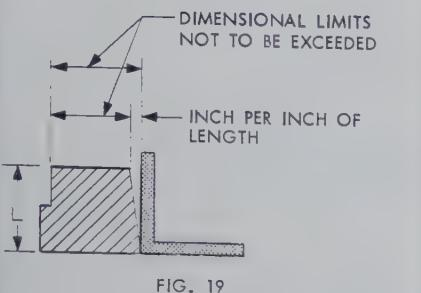

FIG. 19
**Squareness:** Squareness of machined surfaces, other than turned surfaces, shall be .002 per inch of length ( $L$ ) starting with a minimum of .002. See Fig. 19.